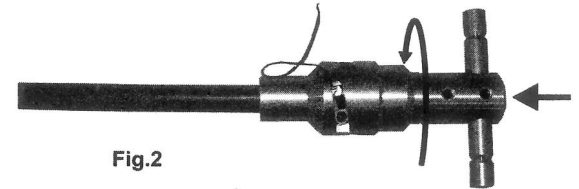

Fig.2
2. For hand operation insert cable into tool opening up to jacket blade. Rotate the tool and simultaneously apply forward pressure to start the cable preparation. The center conductor will reach a pre-set strip stop in the tool body and the cable preparation will end. (Fig.2)